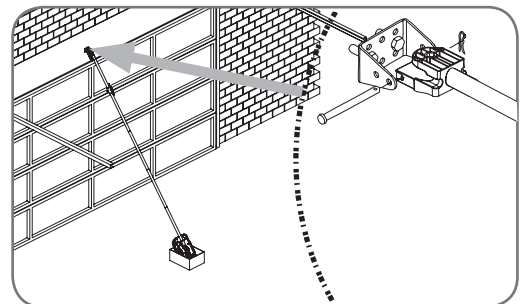

fig 10
- Attach the tube rail assembly to the wall bracket with the 90mm long clevis pin and secure with the supplied snap pin (**Fig. 10**)